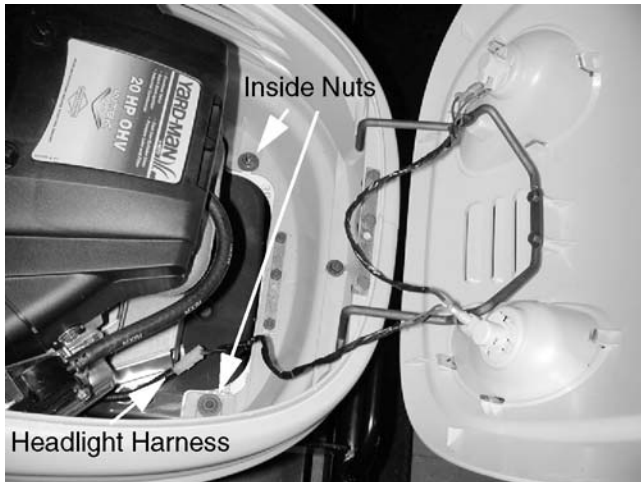

Figure 11-38
3. Remove the nuts at the front inside corners of the side panels using a 1/2" wrench. See Figure 11-38.